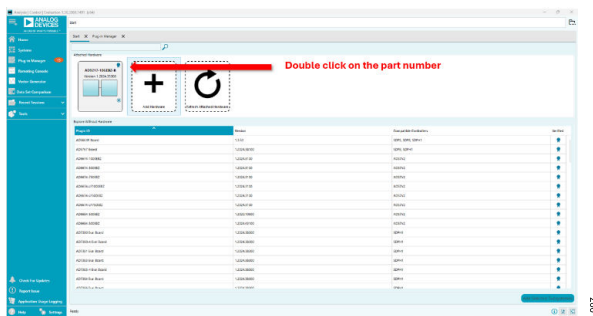

Figure 7. ACE Software Plug-In
7. The **ACE Software** automatically detects the **AD9217-10GEBZ-B** and brings up the correct ACE plug-in, which will appear in the upper left portion of the graphical user interface (GUI). If the plug-in does not appear in the upper left, select the **Plug-in Manager**, select the **AD9217-10GEBZ-B**, and then add the selected plug-in (see Figure 7).
8. Double-click the **AD9217-10GEBZ-B** icon in the **Attached Hardware** section of the GUI (see Figure 7).